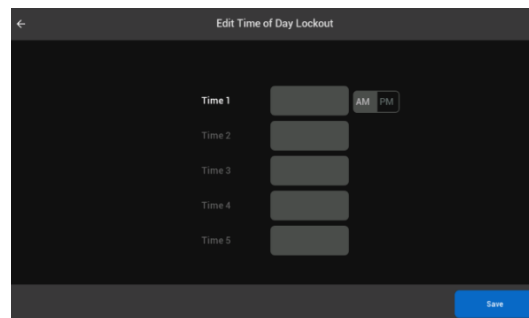

Figure 206 - Time of Day Filter Lockout
The location of all five (5) TOD options can be seen. Click on the empty fields to add filter trigger and  **Figure 206.**